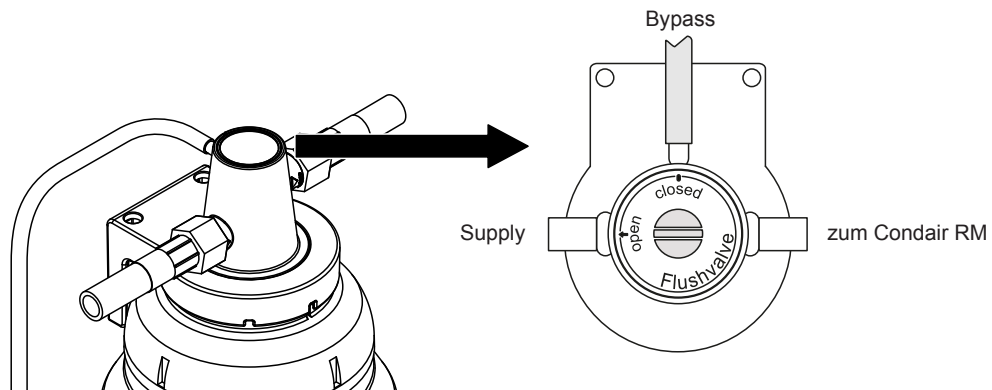

*Fig. 15: Turn valve to "Bypass" (flushing position)*
10. Turn valve in the filter head in such a way, that "open" points to "Bypass" (flushing position, see Fig. 15).